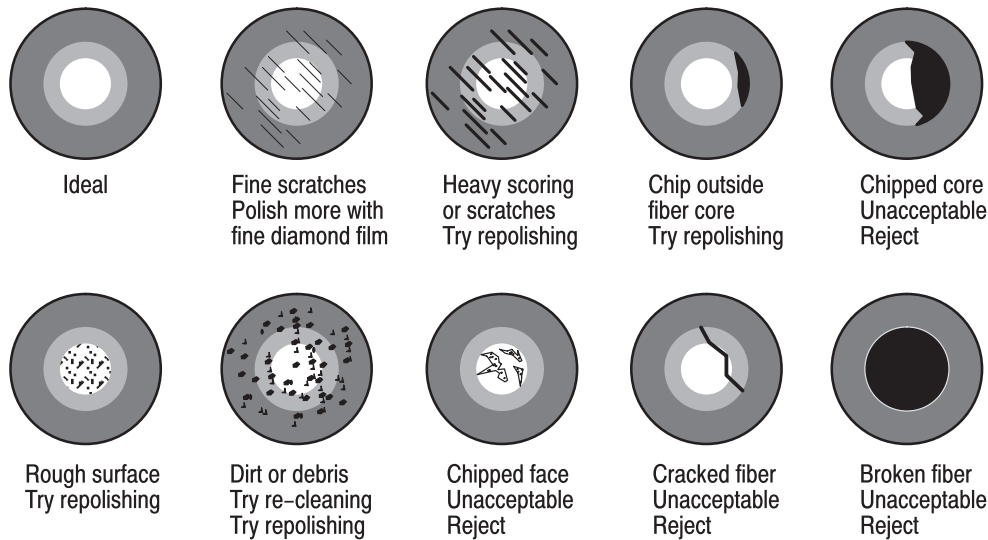

Figure 10
3. Inspect the polished ferrule tip using the inspection microscope kit. Compare fiber end to examples shown in Figure 10 and take any recommended action.